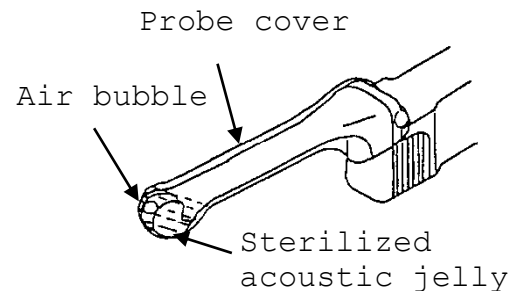
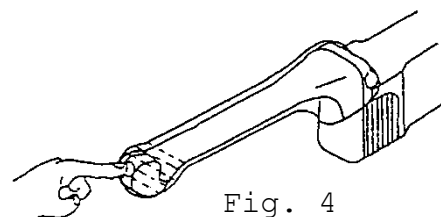

Fig. 3
Fig. 4
- 5) Put a probe cover on the probe and draw the probe cover until the end of the probe shaft. To avoid air bubbles, be careful to press the probe cover gently against probe head and to keep jelly on the probe head. If air bubbles appear on the probe head, remove air bubbles by pushing jelly with finger. (See Fig. 3 and Fig. 4.)